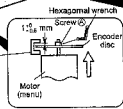
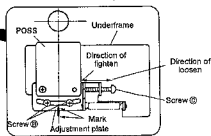
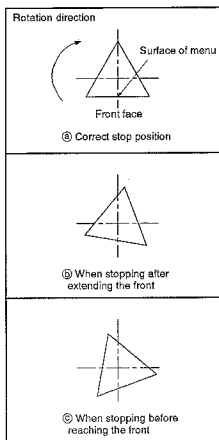

Fig. 8-2
Fig. 8-3
Fig. 8-4
- Loosen screw ④ which holds the encoder disc using a hexagonal wrench.
- Loosen screw ⑤ which holds the adjustment plate.
- (1) Set the gap between the encoder disc and photo interrupter of the motor(menu) to $1 \pm \frac{1}{2}$ mm. (Fig. 8-2)
- (2) Fix the screw of the encoder disc by tightening with a hex wrench.
- (3) Turn screw ③ so that the carved mark on the adjustment plate aligns with the underframe. Then temporarily tighten screw ③.
- (4) Push the ROTATE MENU key on the front panel of the main unit so that menu rotates. Then, perform the following adjustments depending on the condition. (Fig. 8-3)
- When the menu stops after extending the front Loosen screw ⑤ then tighten screw ④ turning it clockwise.
- When menu stops before reaching the front Loosen screw ⑤ and turn screw ③ counterclockwise to loosen it.
- (5) Turn the menu again and firmly tighten screw ⑤ when the menu stops directing its surfaces to the front. (Fig. 8-4 ②)
- (6) Finally, turn the menu and check that the menu stops directing all of its three surfaces to the front at every 120° rotation.